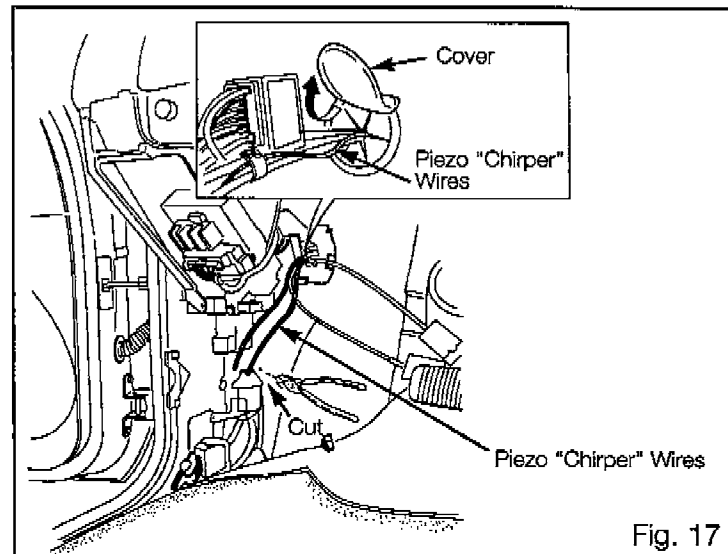

Fig. 17
- (4) A) Inside the passenger compartment, peel up the vehicle's wire harness cover. Fig 17
- B) Pull the entire length of the Piezo "Chirper" RED and BLACK wire into the passenger's compartment, and cut off the excess portion as shown. Fig 17